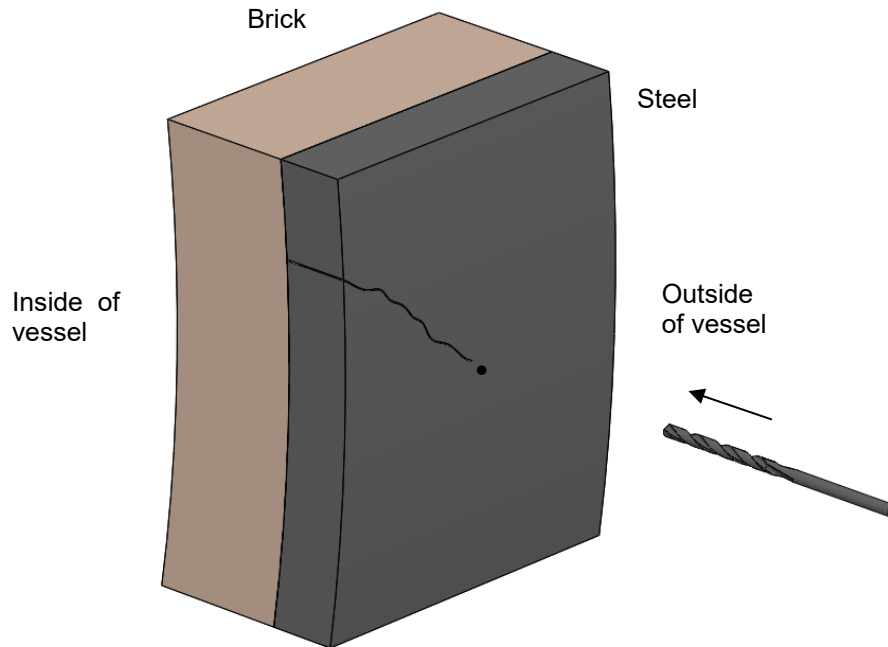

Figure 6.2-1
2. Drill a pilot hole at the marked center position using Pilot Drill BTPD-1533-B-0 as shown in Figure 6.2-1. Drill until the drill point touches the brick.